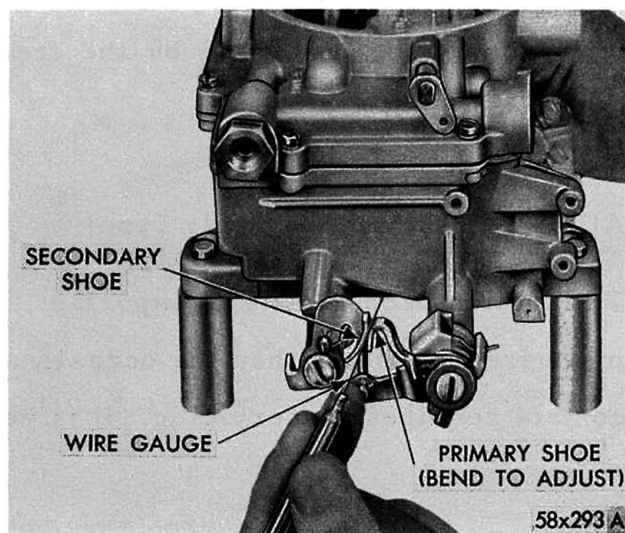

Fig. 6-Measuring Clearance Between Closing Shoes
(6) With the primary and secondary throttle valves in the tightly closed position, it should be possible to insert Tool T-109-29 (.020 inch) wire gauge, between the positive closing shoes on the secondary throttle levers, as shown in Figure 6.
(7) If an adjustment is necessary, bend the shoe on the secondary throttle lever, using Tool T-109-22, until correct clearance has been obtained.